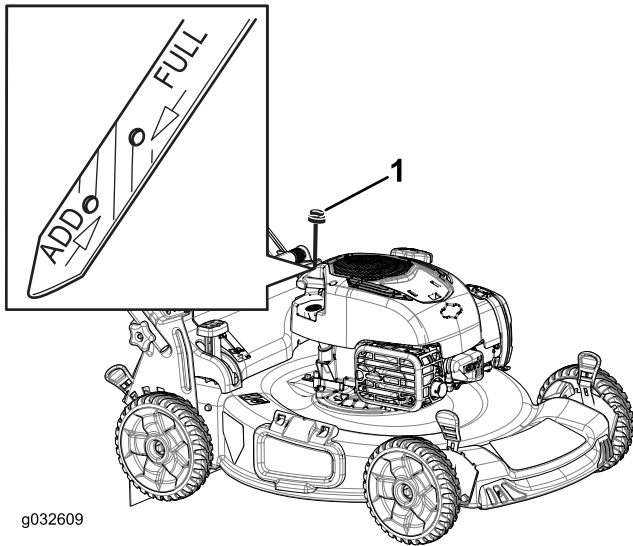

Figure 6
1. Remove the dipstick (Figure 6).
2. Slowly pour oil into the oil fill tube until the oil level reaches the Full line on the dipstick (Figure 6). **Do not overfill.**